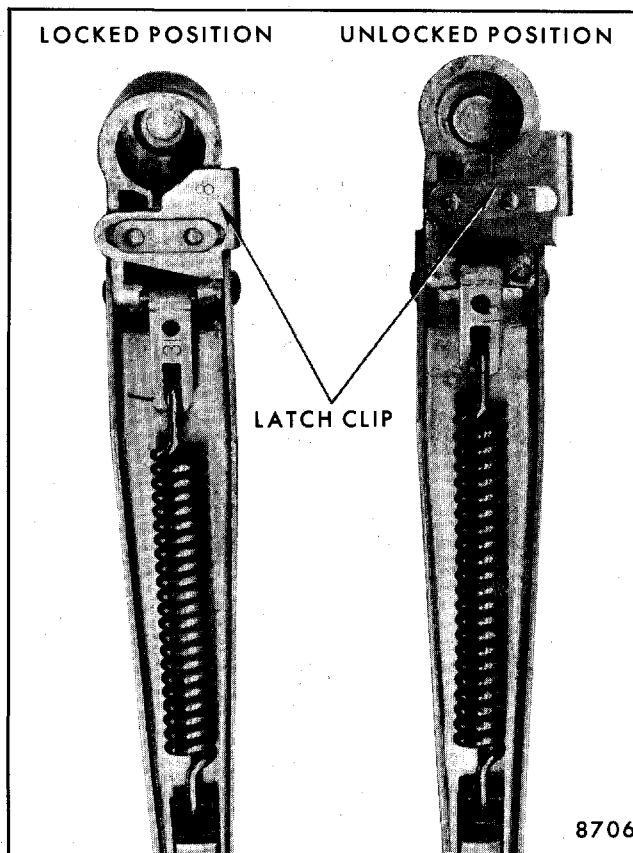

Fig. 2-38 - Wiper Arm Latch Clips "B, C, D, K" Styles
3. On "B, C, D, E and K" styles, lift wiper arm and slide latch clip (Fig. 2-38) out from under wiper arm.
10. On "B, C, D, E and K" styles, lift the wiper arm assemblies and slide latch clips (Fig. 2-38) under